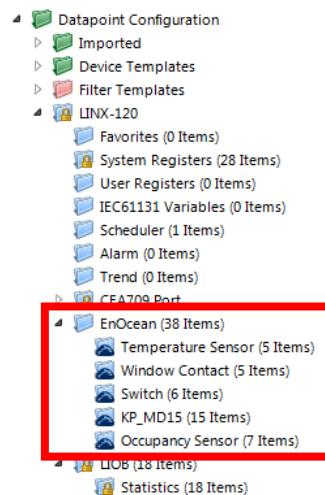

Figure 308: Data Point Manager with EnOcean device folders.
- The folder list (Figure 308),